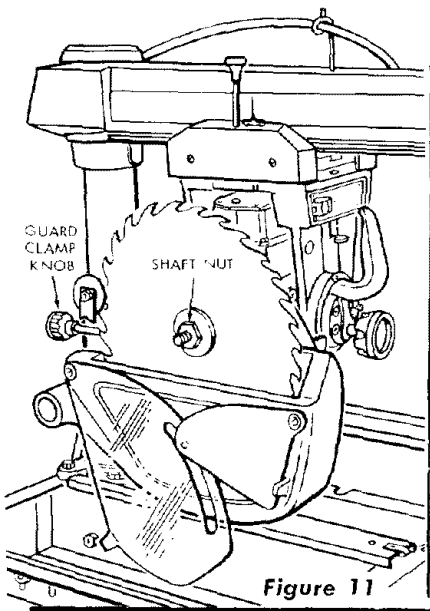

Figure 11
- a. Loosen the guard clamp knob several turns and rotate the guard to an upside-down position. (See figure 11.) Loosen the knob still further, until indicator groove or the clamp bar is exposed, to allow the guard to drop down far enough to expose the shaft nut.